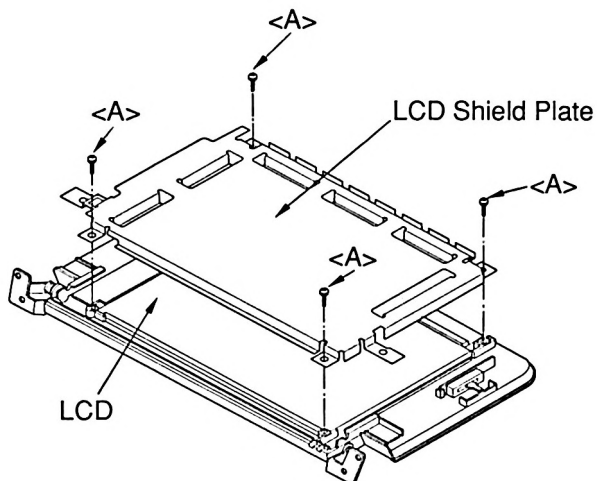

Figure 23
- (11) Remove four screws <A> (2.6 \varnothing ×6) fixing the LCD shield plate as shown in Figure 23. Remove hinges and lift off LCD shield plate.